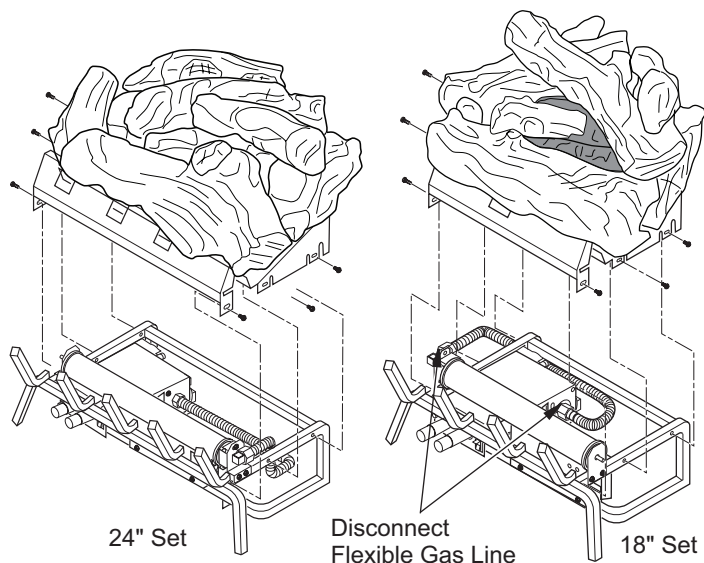

Figure 1 - Removing Log Set
- Remove six screws from sides of log set assembly (three on each side). Remove log set assembly (see Figure 1). Do not pull on log assembly to remove. Work log set off chassis by manipulating metal base.
- 18" models only:** Disconnect flexible gas line from valve and burner (see Figure 1). Discard flex line.